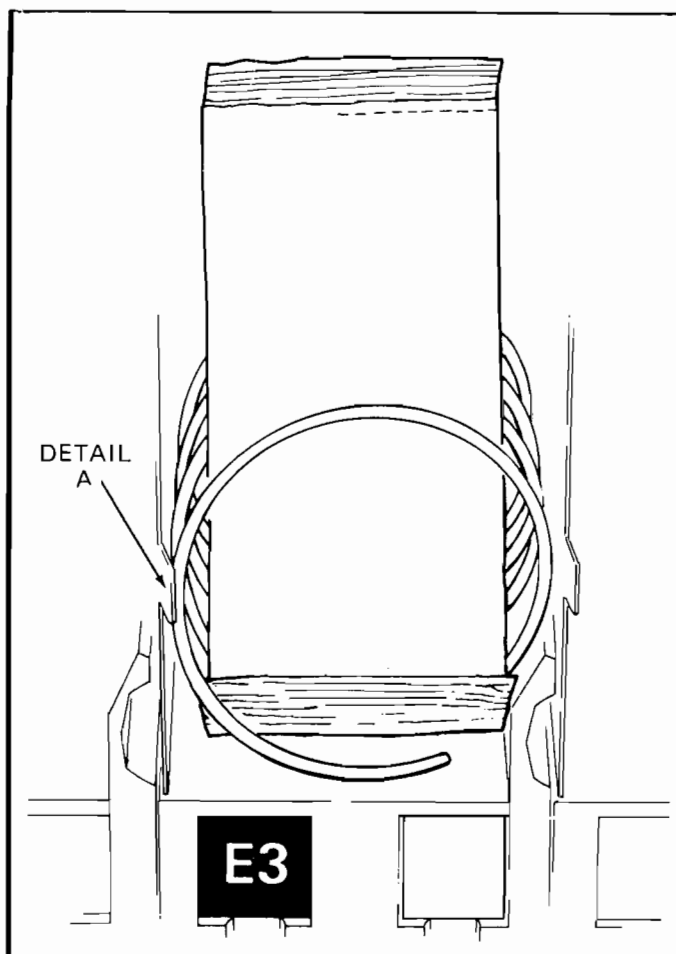

Figure 5. PLACEMENT OF PRODUCT ON MAIN PRODUCT CANDY SHELVES AND FRONT END POSITION OF SPIRAL.
6. **LOADING MAIN PRODUCT CANDY SHELVES:** The 8-selection (candy type) shelves are loaded similar to the 4-selection shelves except that the bottom of the product sits on the shelf in front of the spiral wire (see Figure 5) that rests on the shelf. These products must also fit prop-
erly in the spiral space; do not force product into spiral. These spirals are removed and installed the same as the large spiral (see Figure 3), except that the front end position is different (approximately 5 o'clock) (see Figure 5) and the front left side of the spiral must be behind the small tab located on the left side of the product space side wall (see Figure 5, Detail A).